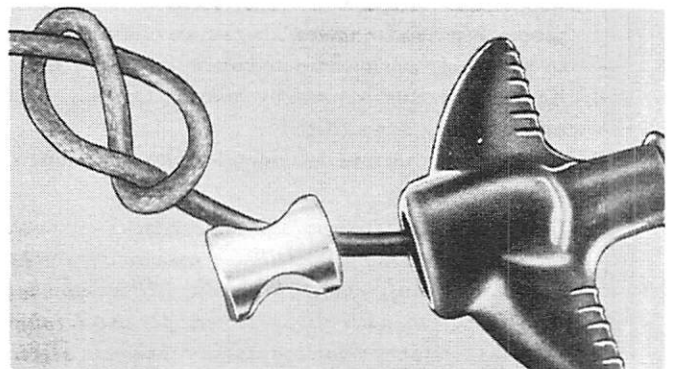

Figure 3. "Figure 8" Knot in Cable (Magna-Pull)
- 16. Tie a "figure 8" knot in cable. (Figure 3)